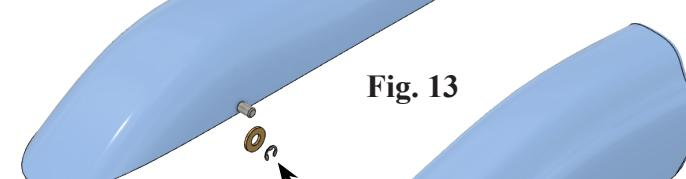

Fig. 13
Step 7. Drag **E Clip Square XY Manipulator**  to along side Washer, right click and click **OK**  , Fig. 13.